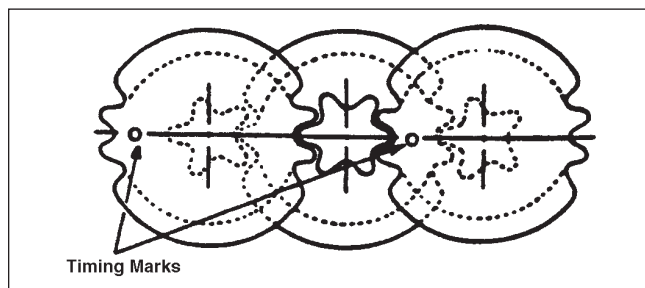

Figure 2 - Twin Gear Timing Marks
1. The twin gears each have an “O” stamped on them which is used as a timing mark. The twin gears must be installed so that the timing marks both point to exactly the 9 o’clock position at the same time (See Figure 2).